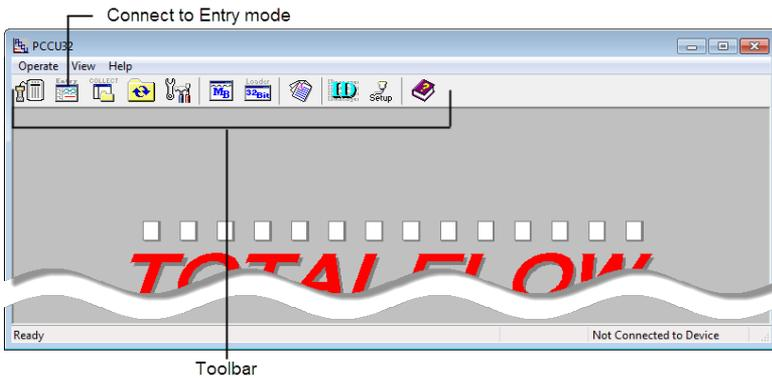
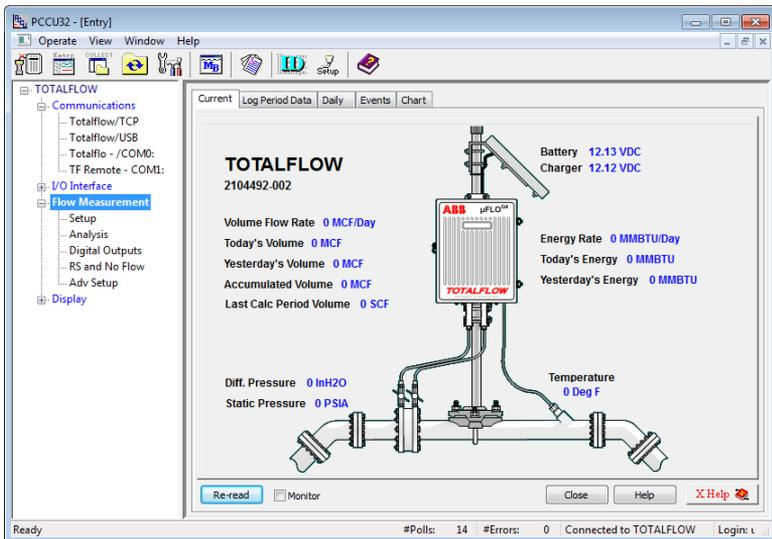

Figure 15: Local connection screen
Figure 16: User interface
4. Click the **Entry** icon on the PCCU32 toolbar (Figure 15) to connect to the flow computer and go directly to the **Entry mode** user interface (Figure 16).